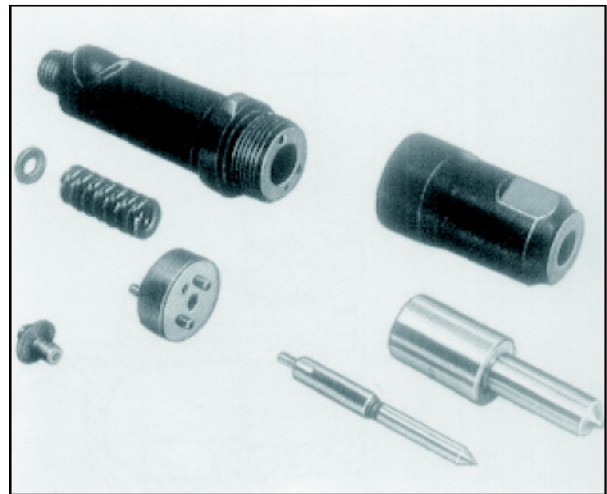

Fig. 25
4. Assemble nozzle in the sequence as shown into the nozzle holder taking care to match the locating pins on intermediate disc and screw on pressure screw. Fig. 25